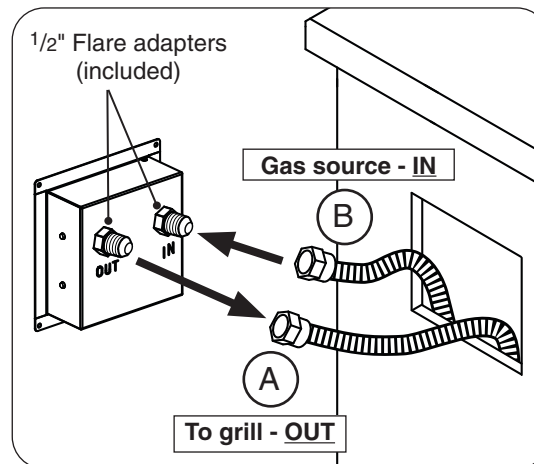

Fig. 2-2 Install timer box
2. Using two wrenches, connect the flex connector coming from the appliance to the 1/2" **flare adapter labeled OUT**. See Fig. 2-2, A. Ensure the connection is tightened securely.
3. Using two wrenches, connect a flex connector (not included) to the 1/2" **flare adapter labeled IN**. See Fig. 2-2, B. Ensure the connection is tightened securely.